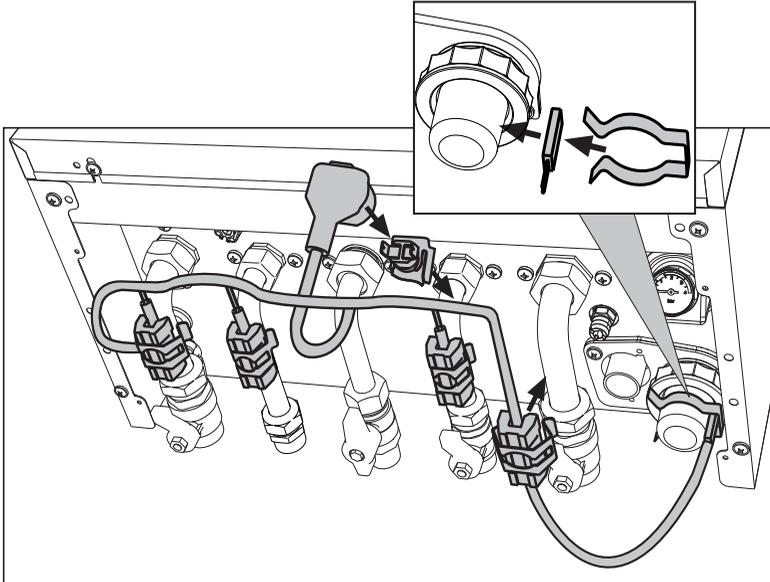

fig. 49- Frost protection kit
In case of installation outside in a place partially protected for temperatures below -5°C and to -15°C , the boiler must be fitted with the special frost protection kit for protecting the circuit. Connect the kit to the PCB as indicated in the wiring diagram in fig. 81 (ref. 288) and position the thermostat and heaters on the pipes as indicated in fig. 49 and in the instructions provided with the kit.